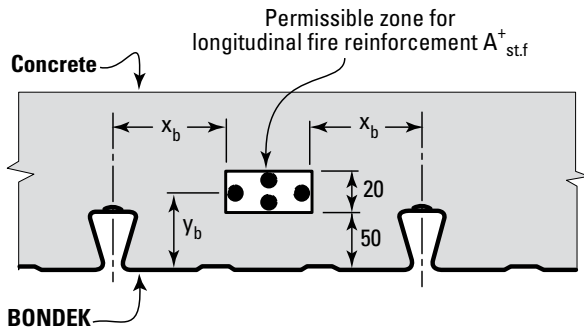

Fig. 5.2
The longitudinal bars which make up $A_{st,f}^+$ should be located within the zone shown in Figure 5.2.
2. Recommended bottom location of fire reinforcement is chosen for practical reasons (to place fire bars on transverse bars laid on top of BONDEK ribs). Lower location of fire bars with cover down to 20mm from soffit may give more economical results - please consult BlueScope Lysaght Research & Technology. Design tables are based on location as shown above in Figure 5.2.